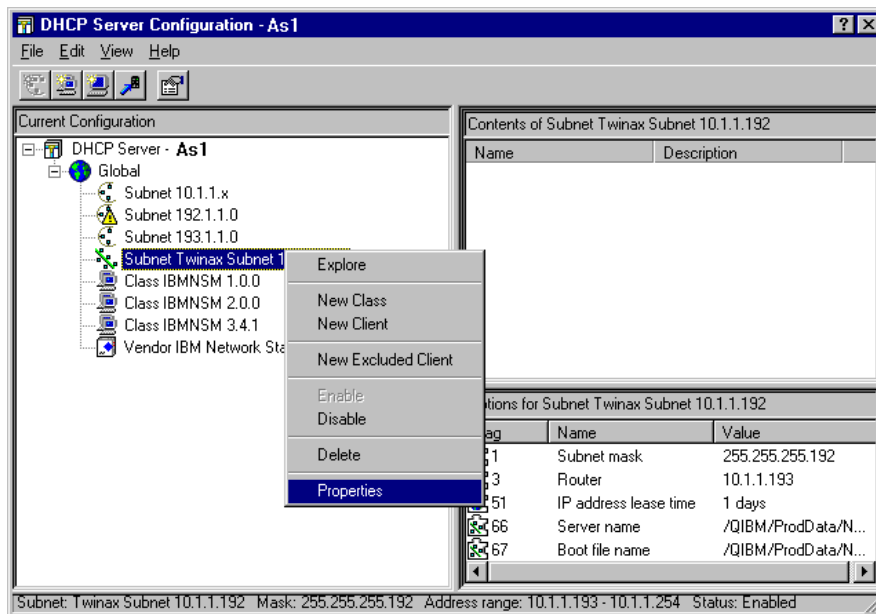

Figure 102. Operations Navigator - DHCP Twinax Subnet Properties
1. Use the AS/400 Operations Navigator on System As1 to open the DHCP server configuration window. Right click on the Twinax Subnet that was previously configured. Highlight **Properties**. The resulting display is shown in Figure 102 on page 195.